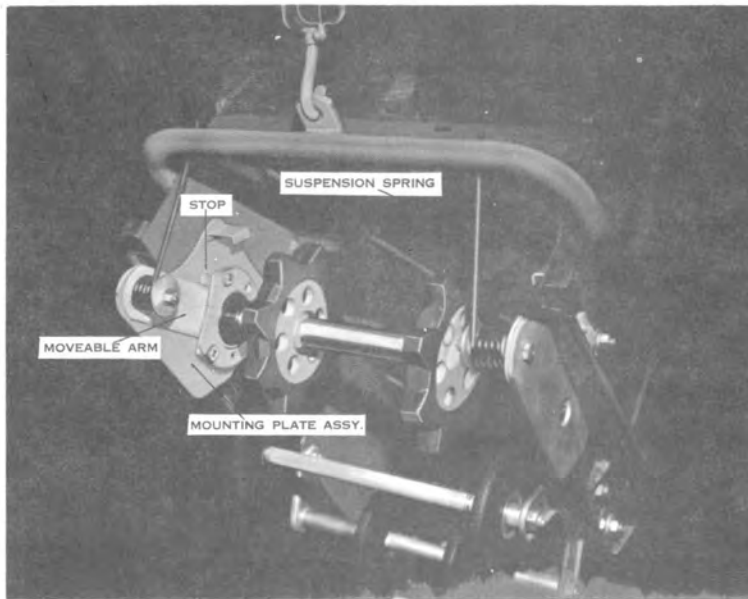

Figure 2
1. Move the axle up until the moveable suspension arms are against their stops. (See Figure 2.)